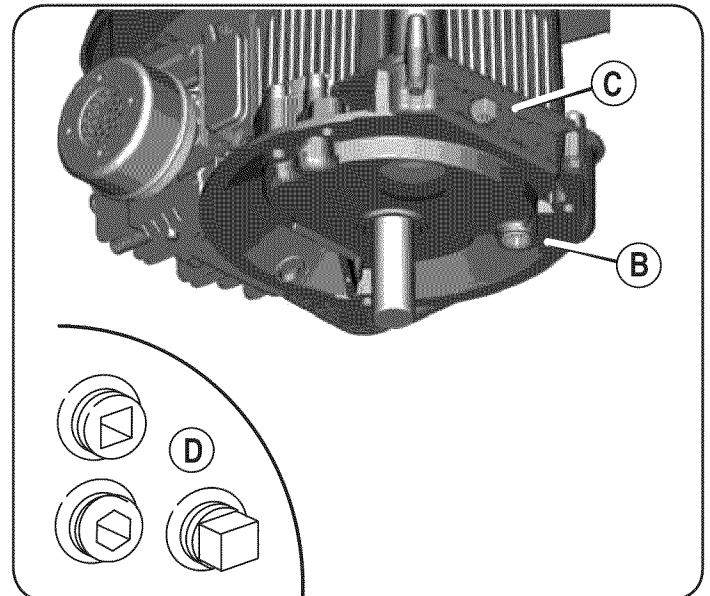

Figure 17
2. The engine is equipped with a bottom drain (B, Figure 17) and/or a side drain (C). Remove the oil drain plug. Drain the oil into an approved container.